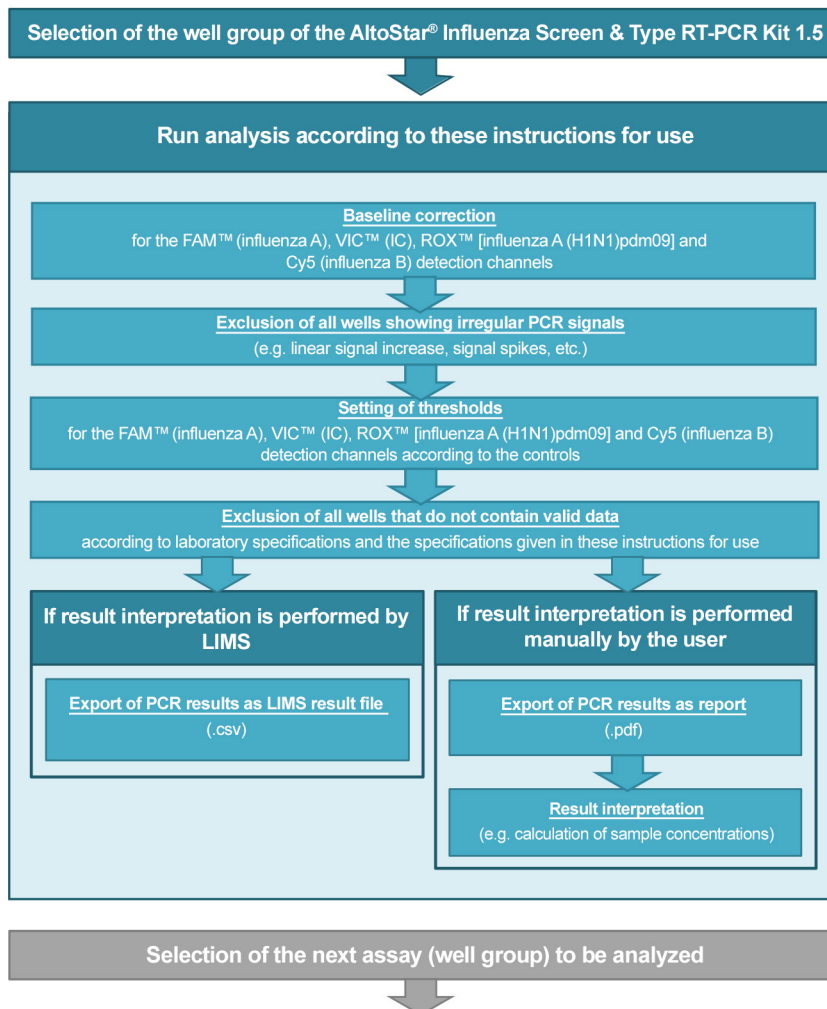

**Figure 2:** Well Groups Manager dialog
2. In the Plate Editor dialog click **Well Groups...** in the tool bar. The Well Groups Manager dialog is displayed (see figure 2).
5. Select all wells in the PCR plate area that belong to the first assay (see figure 2). The wells belonging to an individual assay can be identified in the Plate Editor dialog by the entry in the **Biological Set** field.